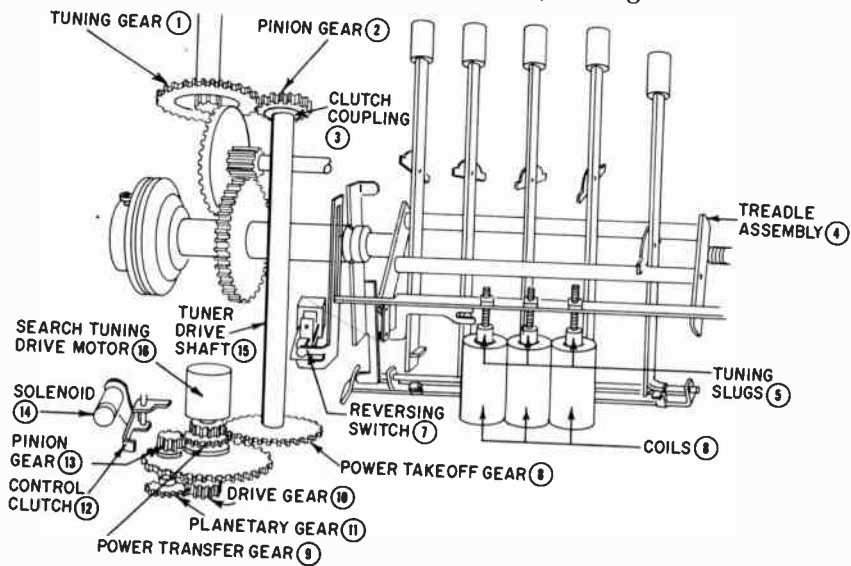

Fig. 607. Detailed mechanical analysis of a search tuning system.
When power is applied to the search-tuner drive motor (16), the tuning slugs (5) are positioned in the coils (6) of the tuned circuits according to the following detailed analysis (refer to Fig. 607). The search-tuning drive motor runs the drive gear (10) which operates the planetary gear (11). The planetary gear in turn operates the pinion gear (13) which operates the power transfer gear (9). The power transfer gear drives the power takeoff gear (8) and the tuner drive shaft (15), which is clutch-coupled to the pinion gear (2). The pinion gear applies power to the tuning gear (1), which operates the treadle assembly (4) in a manner similar to the action of the power transfer in manual tuning. The clutch coupling (3) between the tuner drive shaft and the pinion gear prevents damage to the search-tuning drive motor, in case the tuning mechanism jams during automatic tuning.